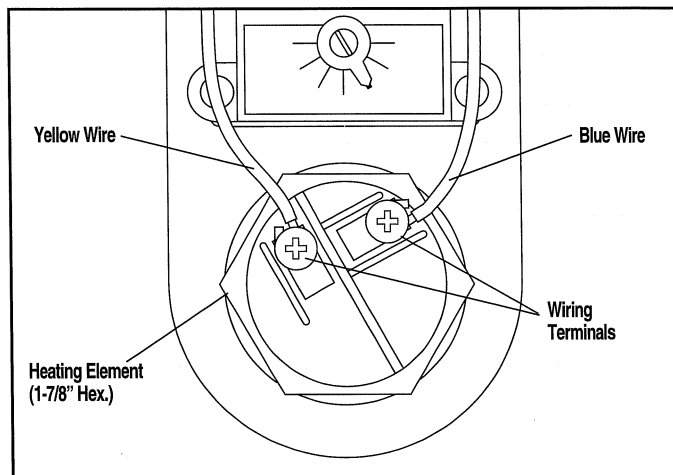

Figure 18. — Typical Element Wiring (upper or lower element position).
- H. After again insuring that the electrical power is off, disconnect the two wires from the element terminals. (See Figure 18).
- M. Reconnect wiring to the terminals on the element (see Figure 18).